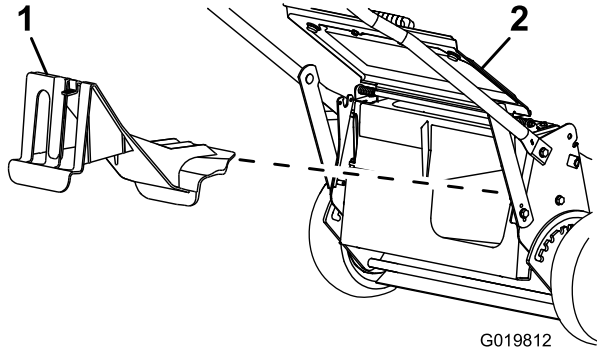

Figure 20
- If the rear-discharge plug is not installed, grip it by the handle, raise the rear deflector, and insert it into the rear-discharge chute until the latch locks into place; refer to Figure 20.
2. Remove the rear-discharge plug by pulling down on the latch with your thumb and pulling the plug out from the machine (Figure 20).